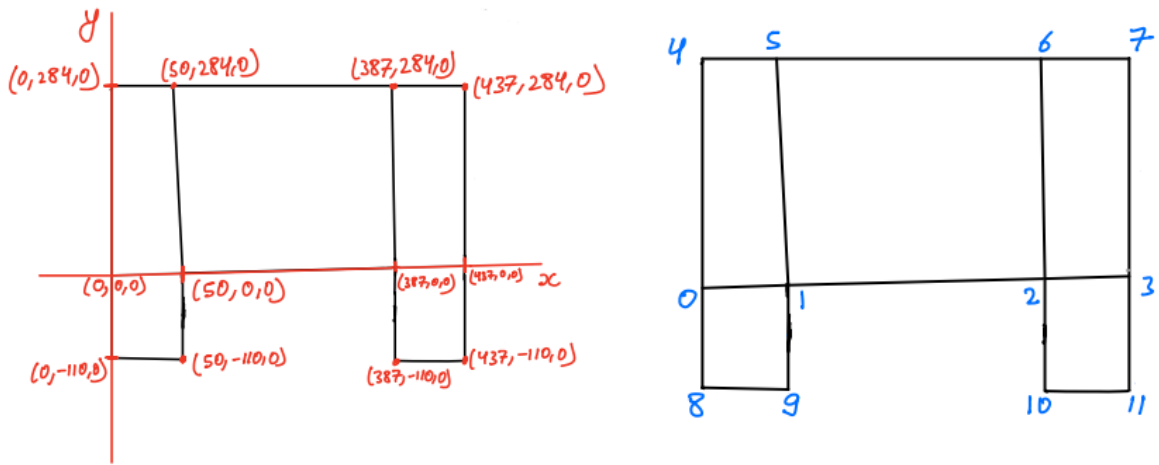

Figure 2
The picture on the right of **Fig.2** represents the front plane of the cooling plate in the XYZ plane constructed with 12 vertices. These vertices are numbered starting from the origin as 0, as shown in the left picture.
1. Write all twelve vertices of the front plane (**Figure 2**) starting from 0 and in numerical order. (lines 20 to 33 of the file)